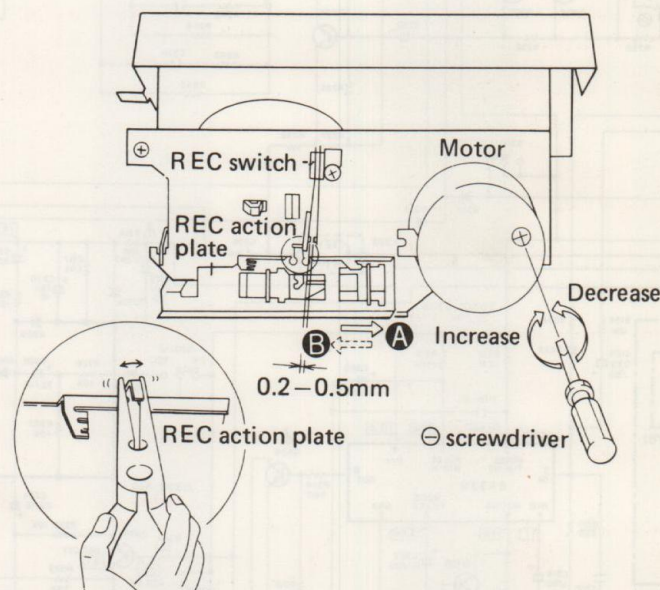

Fig. 12-2 Tape speed and REC switch adjustment
2. Play back the 3kHz portion of the STD-301 test tape. At the beginning, the frequency should be lie within the 3000Hz ~ 3010Hz range, and may be adjusted by turning the semi-fixed resistor located in the motor adjustment hole as shown in Fig. 12-2.